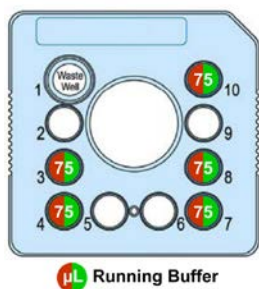

Figure 1: Chip Preparation for pH 5.6 to 7.2 Running Buffer
- When using pH 5.6 to 7.2 Running Buffer solution, add **75 μL** of the Running Buffer solution to chip wells 3, 4, 7, 8, and 10 (see Figure 1).